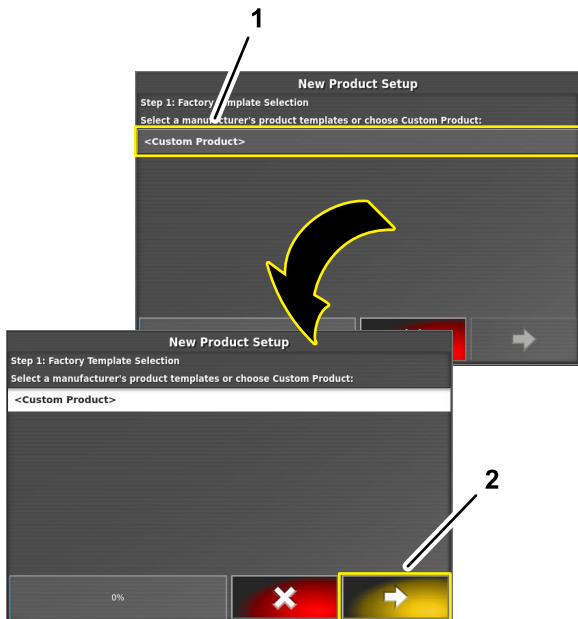

Figure 117
6. On step 1 of the new product setup dialog box, press the CUSTOM PRODUCT icon, and press the next icon (Figure 117).